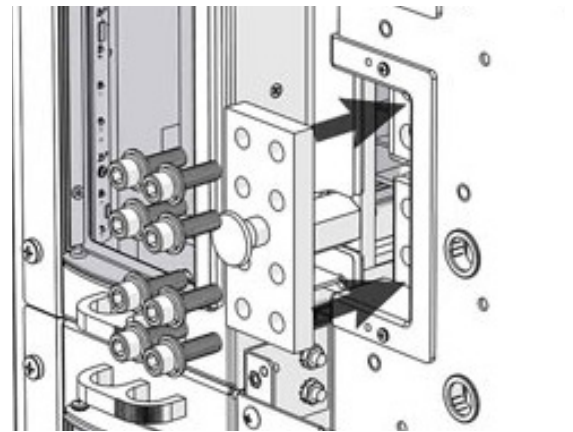

Figure 37. HOT Jumper
- Step 4. Insert the eight 3/8 in. socket cap bolts with flat and lock washers through the hot jumper and into the pems of the hot buses. Take caution as to not drop any hardware during this process (see Figure 37).